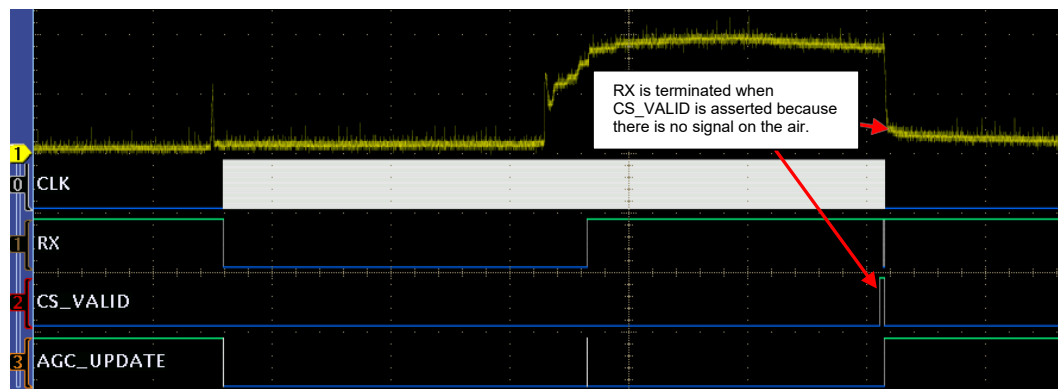

Figure 3: Plot from Oscilloscope Showing Current Draw and Logic Outputs. The number to the left of each signal represents the corresponding GPIO number.
Figure 3 shows a plot of the current draw and logic outputs when looking for data in RX Sniff mode. Settings used are 868 MHz, Bit rate: 1.2 kbps, 2-FSK, RX BW: 25 kHz from SmartRF Studio. When the `IOCFGx.GPIOx_CFG` setting is less than 0x30 and `IOCFGx.GPIOx_INV` is 0 (1) the `GPIO2(CARRIER_SENSE_VALID)` pin will be hardwired to 0 (1), and `GPIO1(MARC_2PIN_STATUS[0])` and `GPIO3(AGC_UPDATE)` will be hardwired to 1 (0) in the SLEEP state.